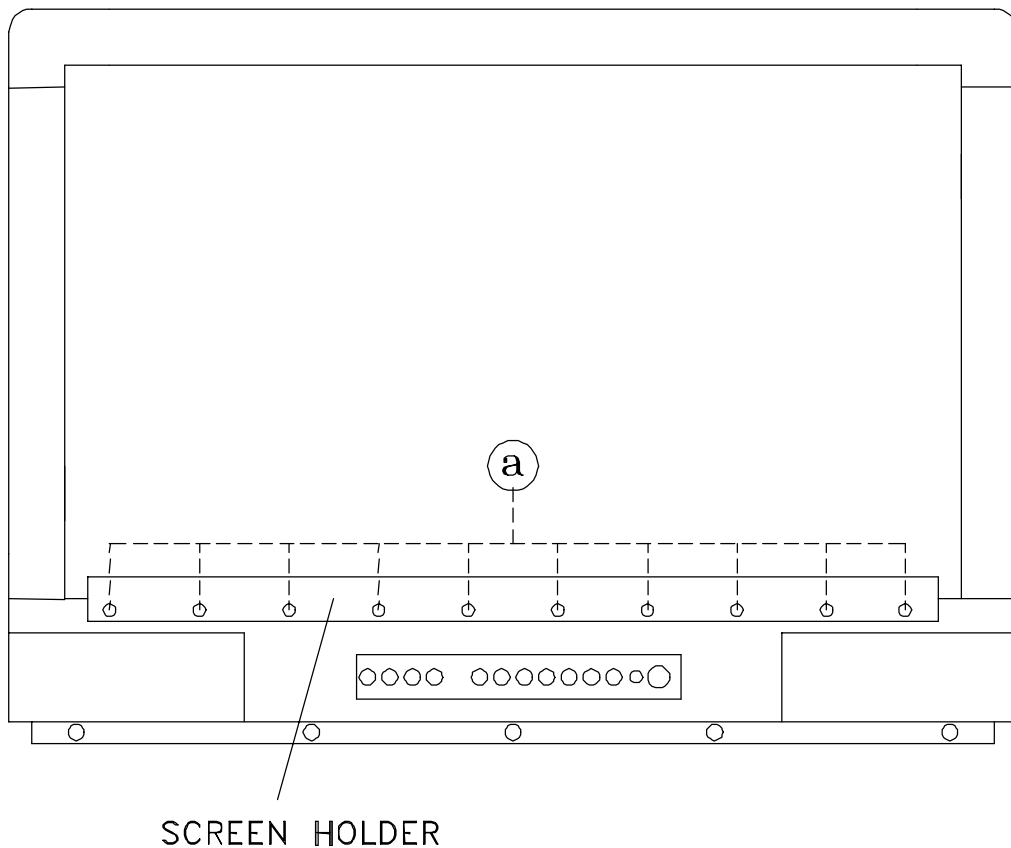

Figure 3-1
2. Remove the Screen Holder by removing screws (a). [Figure 3-1]